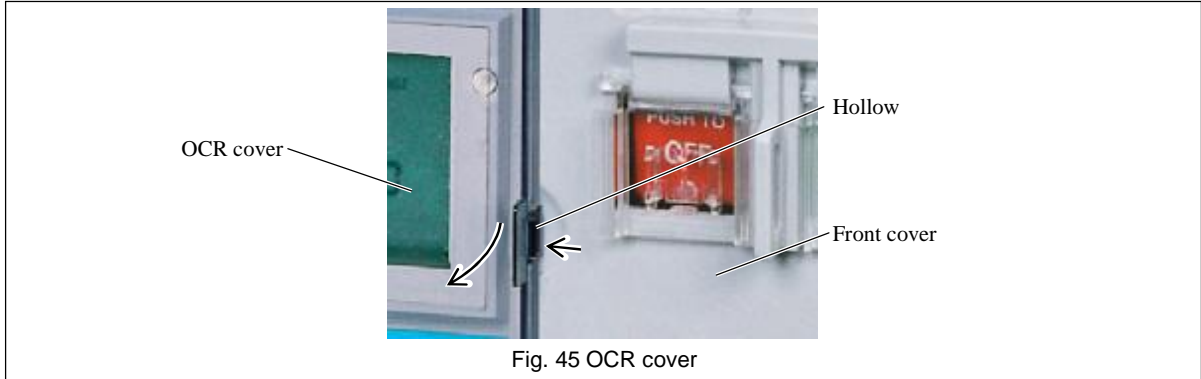

Fig. 45 OCR cover
- 1) Push the right end of the OCR cover to the left at the hollow on the front cover to unlatch and open the OCR cover. See Fig. 45.